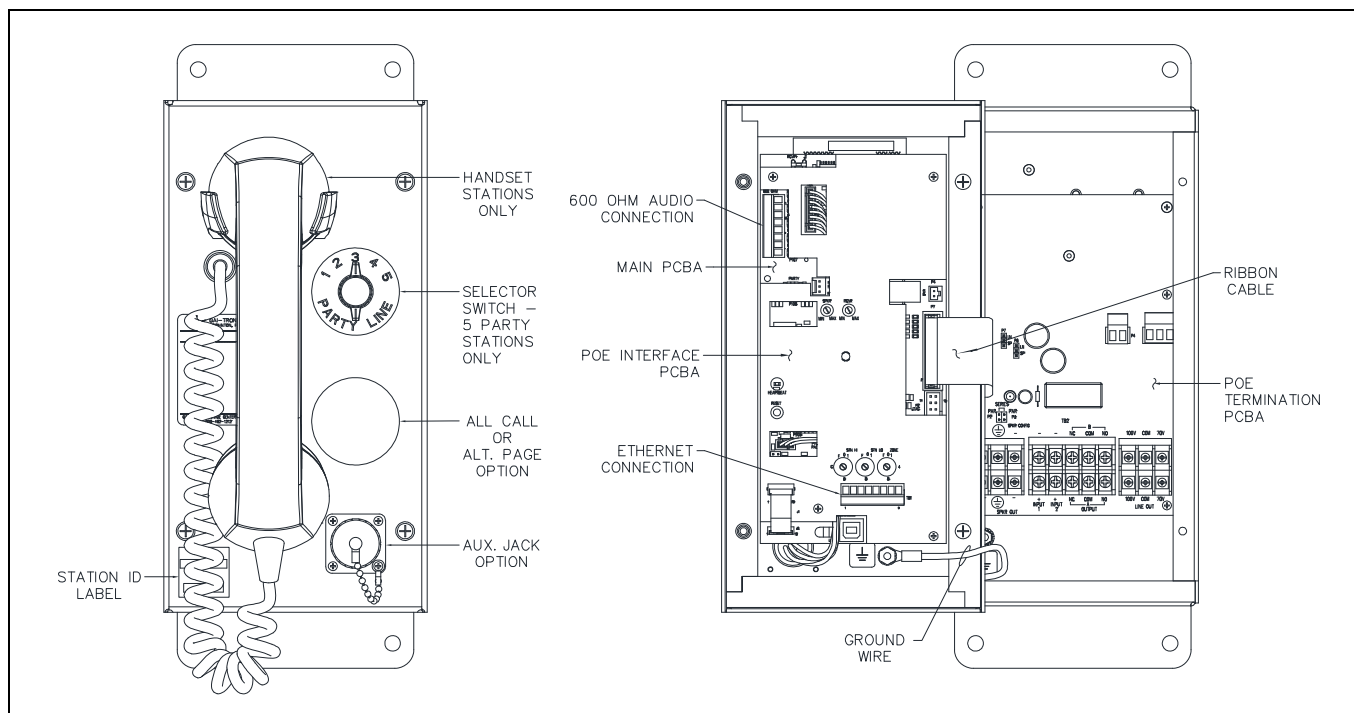

Figure 1. SP2 PoE Handset/Speaker Amplifier Station
This guide covers the installation of SP2 PoE handset/speaker amplifier stations (see Figure 1). Refer to Publication 42004-788 for detailed explanations of the available configuration options and adjustments, system design specifications, and warranty information. GAI-Tronics' product documentation is on the GAI-Tronics website at <https://www.gai-tronics.com>.
SP2 stations provide terminal blocks, on the termination PCBA, located in the rear enclosure, for field wiring the speaker, optional 70-volt/100-volt speakers, and RTU connections. The main PCBA, mounted to the back of the front panel, provides a pluggable terminal block for the 600-ohm audio connection. The Ethernet connection is located on the POE interface PCBA (see Figure 1).
2. Secure it to the ground terminal located in the lower left corner at the back of the rear enclosure (see Figure 1).